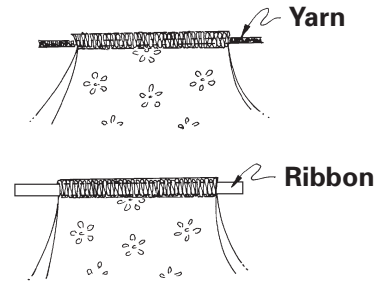

Fig. 23-2
- ❑ Serge over narrow ribbon, braid, yarn, or heavy thread, such as buttonhole twist or pearl cotton. (Fig. 23-2) To maintain stretch in a serged seam, serge over a narrow width of clear elastic, being careful not to cut it with the serger knives.